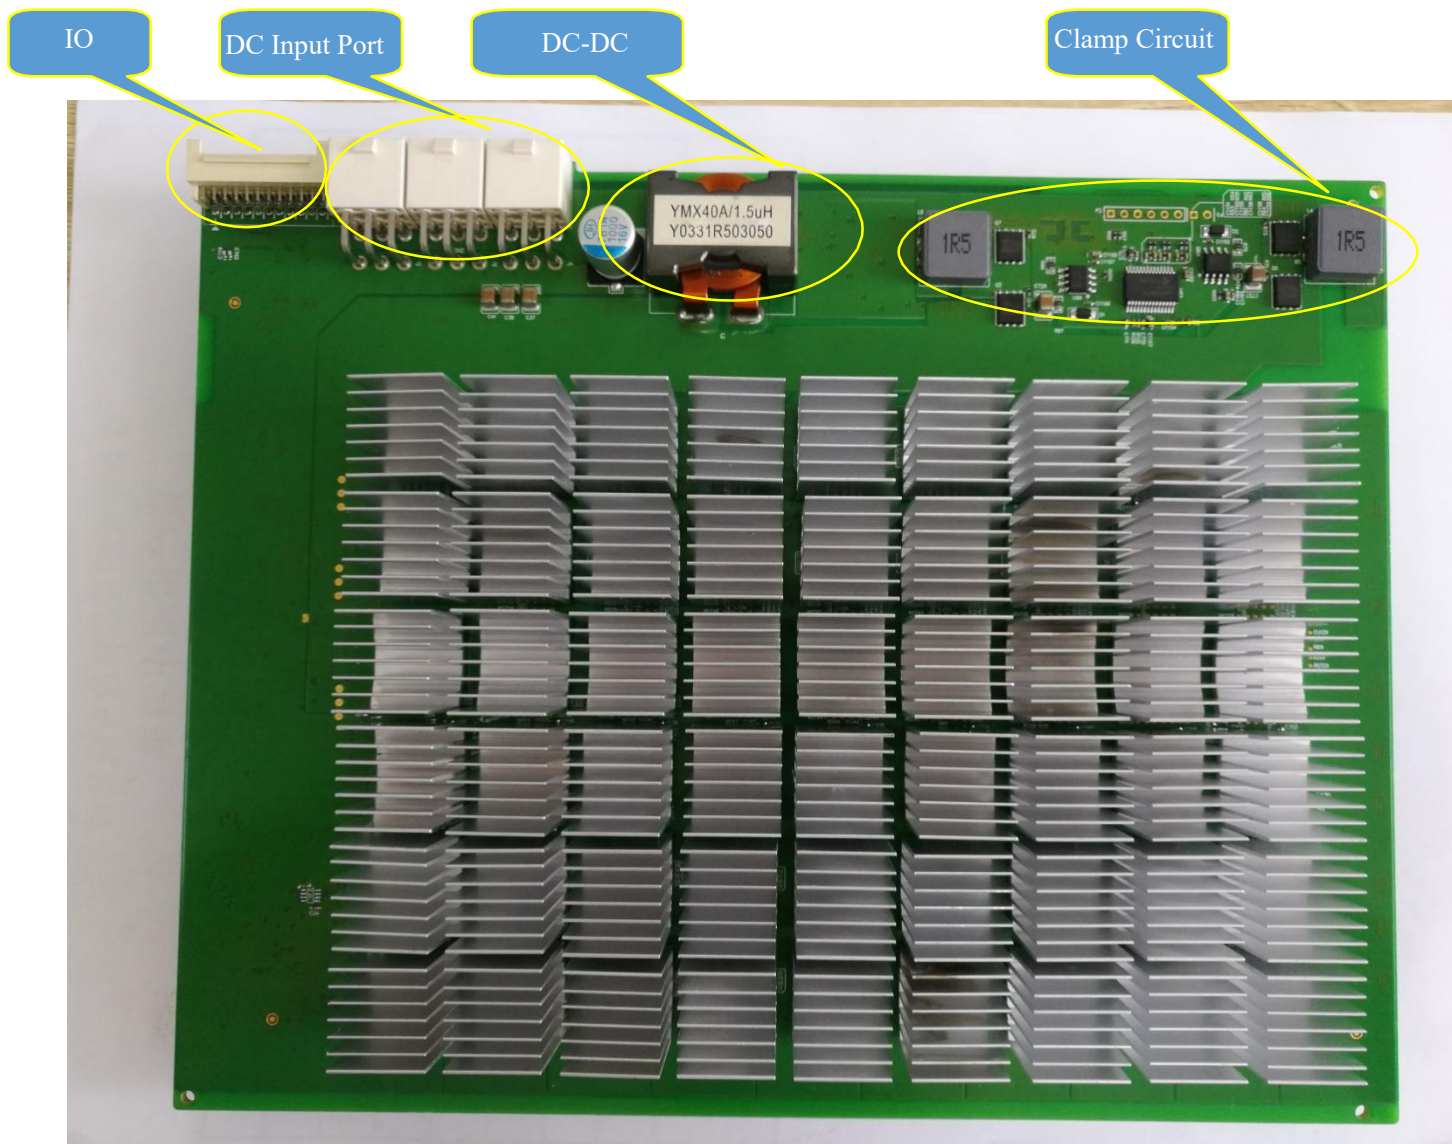

Fig 4. The Critical Circuits of T9+ Hashboard
2. Fig 4 is the critical circuits on the front of T9+ Hashboard.